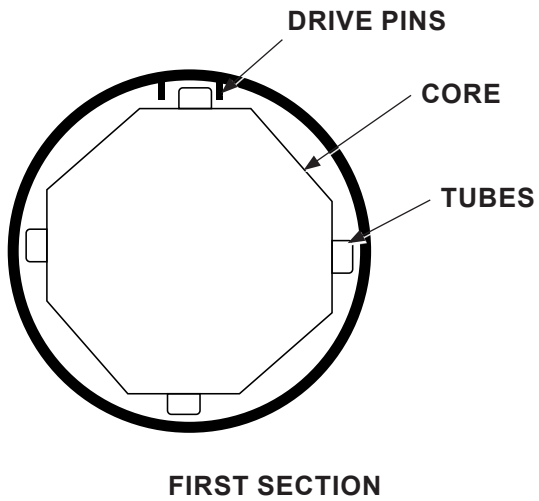

Figure 3
- a. Slide the first section onto the core with the drive pins on each side of a tube. Make sure that the drive pins angle up (figure 3).